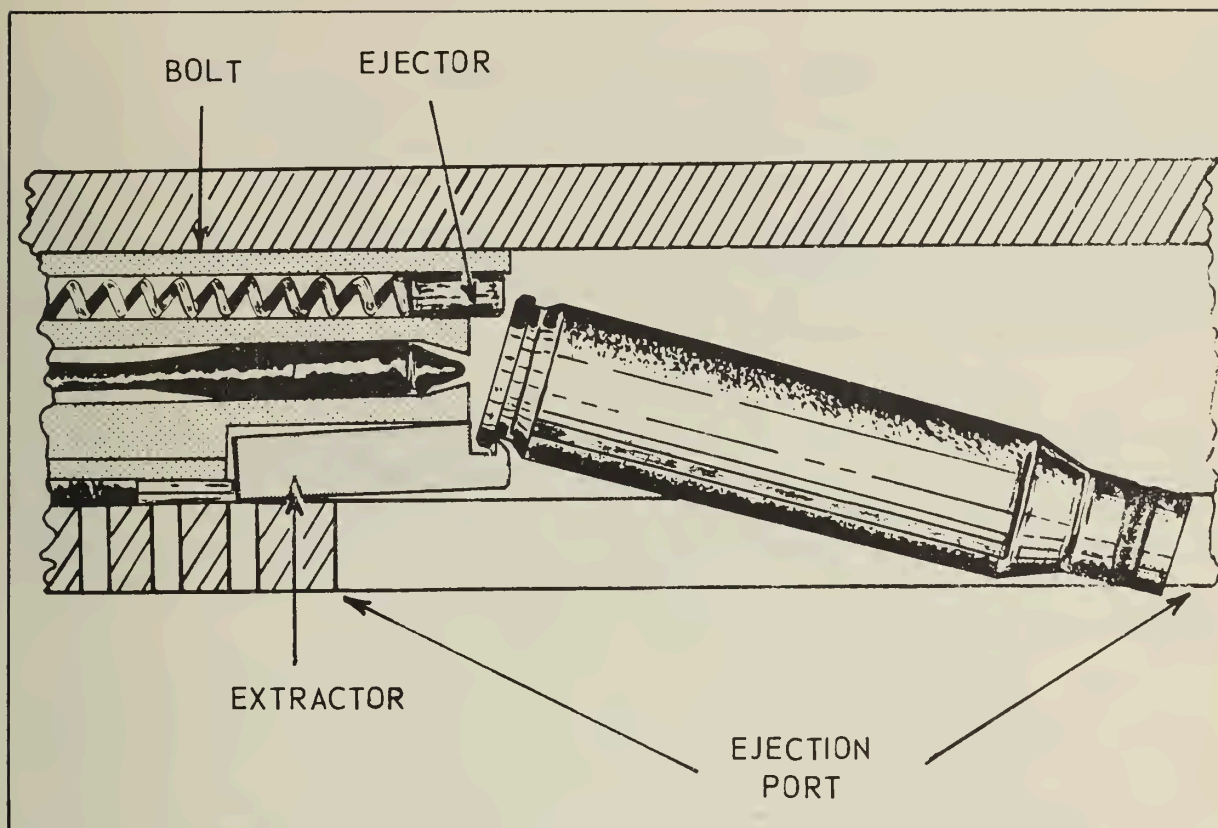

Figure 67. --Extraction and Ejection.
f. Extracting. --Extracting begins with the first movement of the bolt to the rear. Extracting is completed when the front of the cartridge case clears the chamber. Slow initial extraction is accomplished as the bolt unlocks. (See fig. 67.)
g. Ejecting. --Ejecting begins as the front of the cartridge case clears the chamber. The ejector spring expands forcing the front of the cartridge case to ride along the right side of the receiver. Due to the push of the ejector on the left and the pull of the extractor on the right, ejecting is completed when the cartridge case is spun from the receiver as it reaches the ejection port. At about the same time, the empty link is pushed from the link ejection port by the next round as it moves into the feedplate groove. (See fig. 67.)